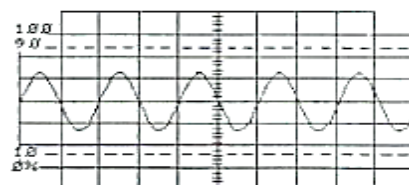

Figure 4-13.
14. Trigger the oscilloscope on channel 2, and set the oscilloscope sweep to 1 μ s/DIV so that the channel 2 signal appears, as shown in Figure 4-13.